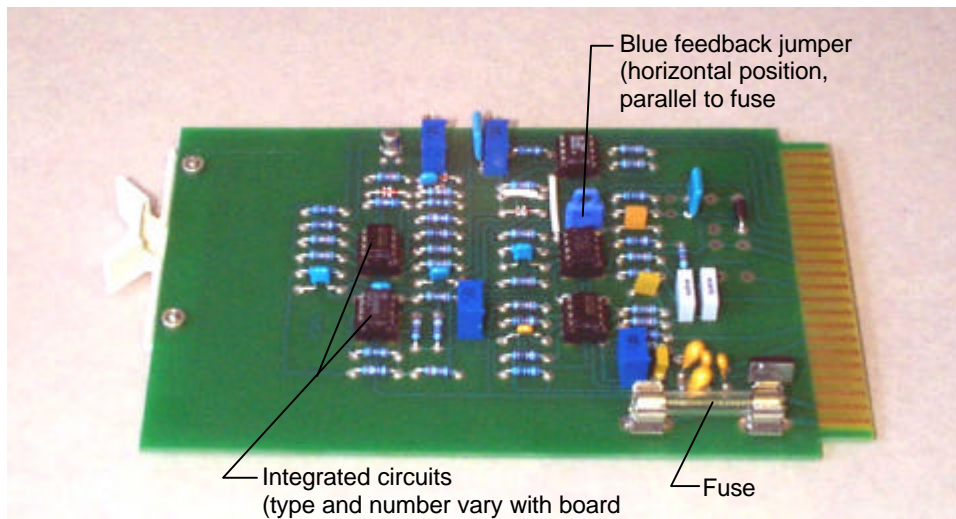

Fig. 6.4-2 A typical sine-wave driver board with the feedback jumper in the grounded position (an Energy board)
- b. Check the fuse (Figs. 6.4.2 and 6.4.3).
- b. Note the position of the blue-colored feedback jumper (see Figs. 6.4.2, 6.4.3 and Table 6.4.1).